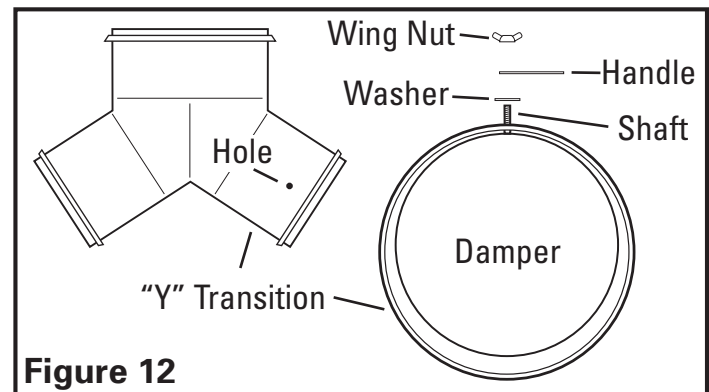

Figure 12
3. Insert the shaft of the damper into the hole drilled in step 2. Place the washer, handle, then wing nut onto the shaft (**Figure 12**).